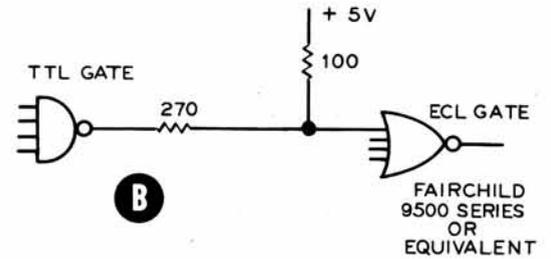

Figure 3
As shown in the following "IC Compatibility Chart," the power supplies and other circuitry of your Digital Experimenter are compatible with most of today's commonly used logic families. Figure 2 (on Page 38) shows how the power supply can be adapted for still another logic family, and Figures 3 and 4 show simple interface (connecting) circuitry between some of these families.
4. Even with a $+5$ -volt supply on the ECL circuits, this type of IC is not compatible with the switches and indicators on the ET-3200. With some simple circuit additions, you can obtain full compatibility. Figure 3 shows two simple circuits to convert standard TTL levels to ECL levels. The second circuit in Figure 3 can also be used to convert the clock, data switch, and logic switch outputs of the ET-3200 to ECL levels.